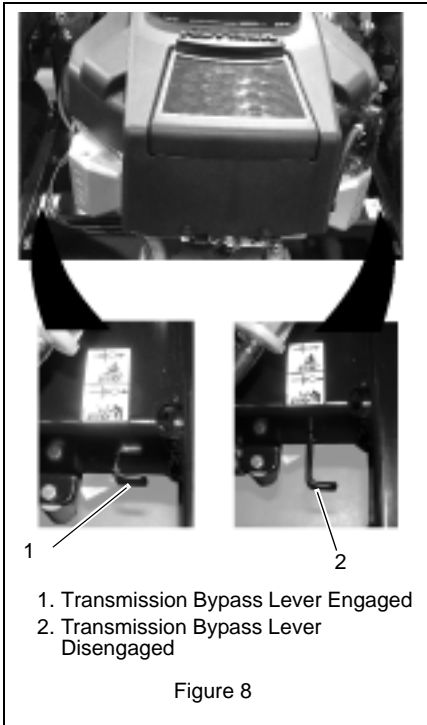

Figure 8
Disengage (2) transmission bypass levers to drive unit and engage (1) transmission bypass levers to push unit manually (figure 8)